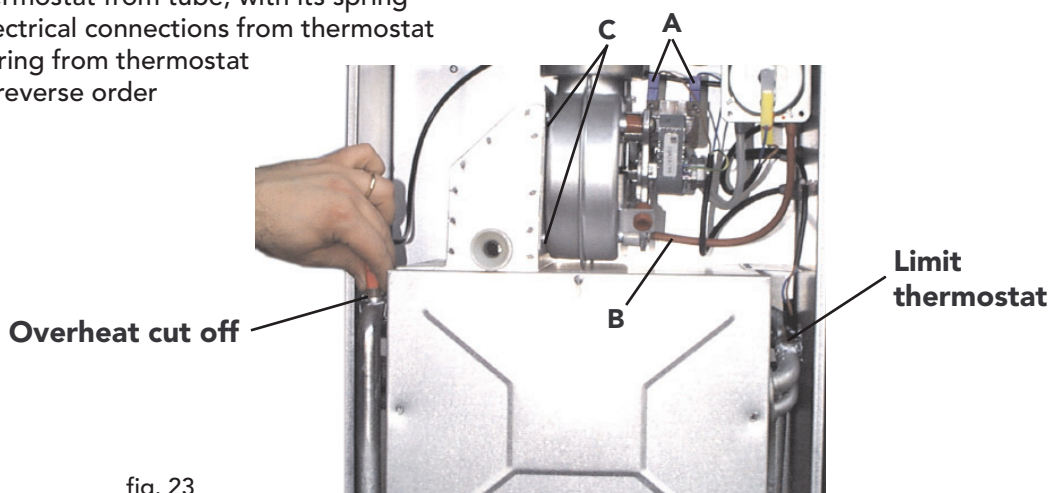

fig. 23
**Removal of fan (fig. 23)**
**Limit thermostat, or overheat cut off thermostat (fig. 23)**